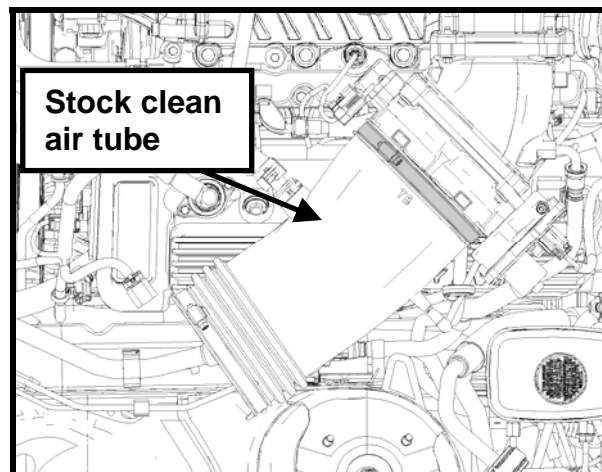

Fig. 27
**STEP 11:** Re-install the stock clean air tube onto the throttle body (See Fig. 27). Do not tighten the clamp at this point.